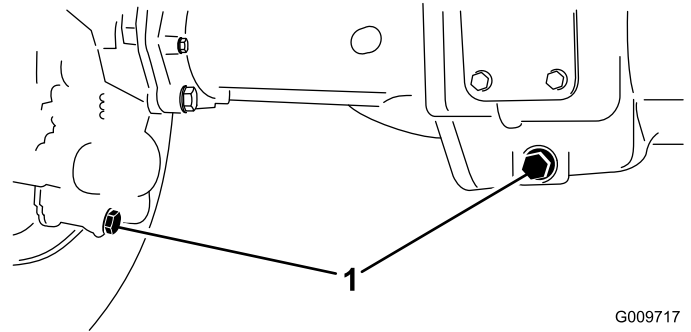

Figure 72
- Clean the area around the 3 drain plugs, 1 on each end and 1 in the center (Figure 72).